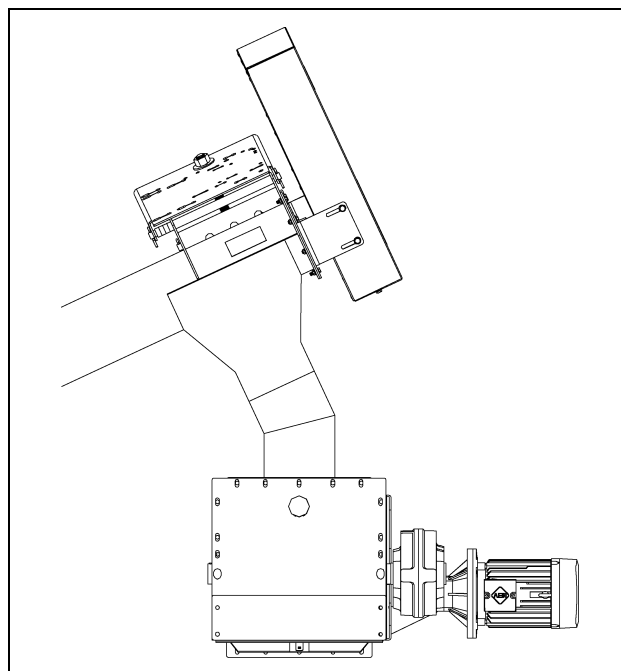

Figure 2C
- d. A shorter tube may be used only where the tube is directly connected to other handling equipment. (See Figure 2C.)